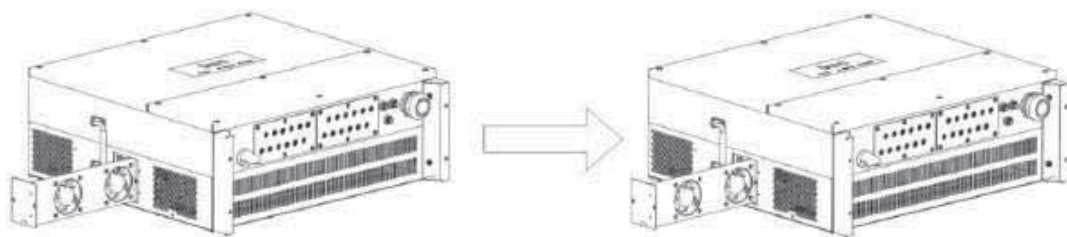

Figure 5.6 Replace the Fan
- (8) As shown in Figure 5.6, remove the damaged inverter fan, install the good fan to the original position, and connect the fan power supply and control cable.